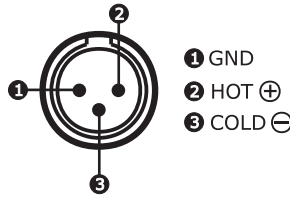

Fig. 3
- (A) Connect the receiver audio output Jack ⑪ ⑮ to a mixer or amplifier MIC IN jack using a XLR cable. See Fig. 3 for 3-pin XLR connector wiring diagram.
- (B) Connect unbalanced phone jack ⑫ ⑯ to a mixer or amplifier LINE IN jack using a PHONE cable.
- (C) Switch the output mixed switch ⑭ to MIXED position, the multiple channel outputs are mixed and connect to the mixed output jacks ⑪ ⑫ .
- (D) Output for electric guitar/bass: Use a 6.3φ phone cable. One end to receiver's unbalanced output jack and the other end to guitar/bass amplifier's input jack. Switch the output level to "LINE" position.